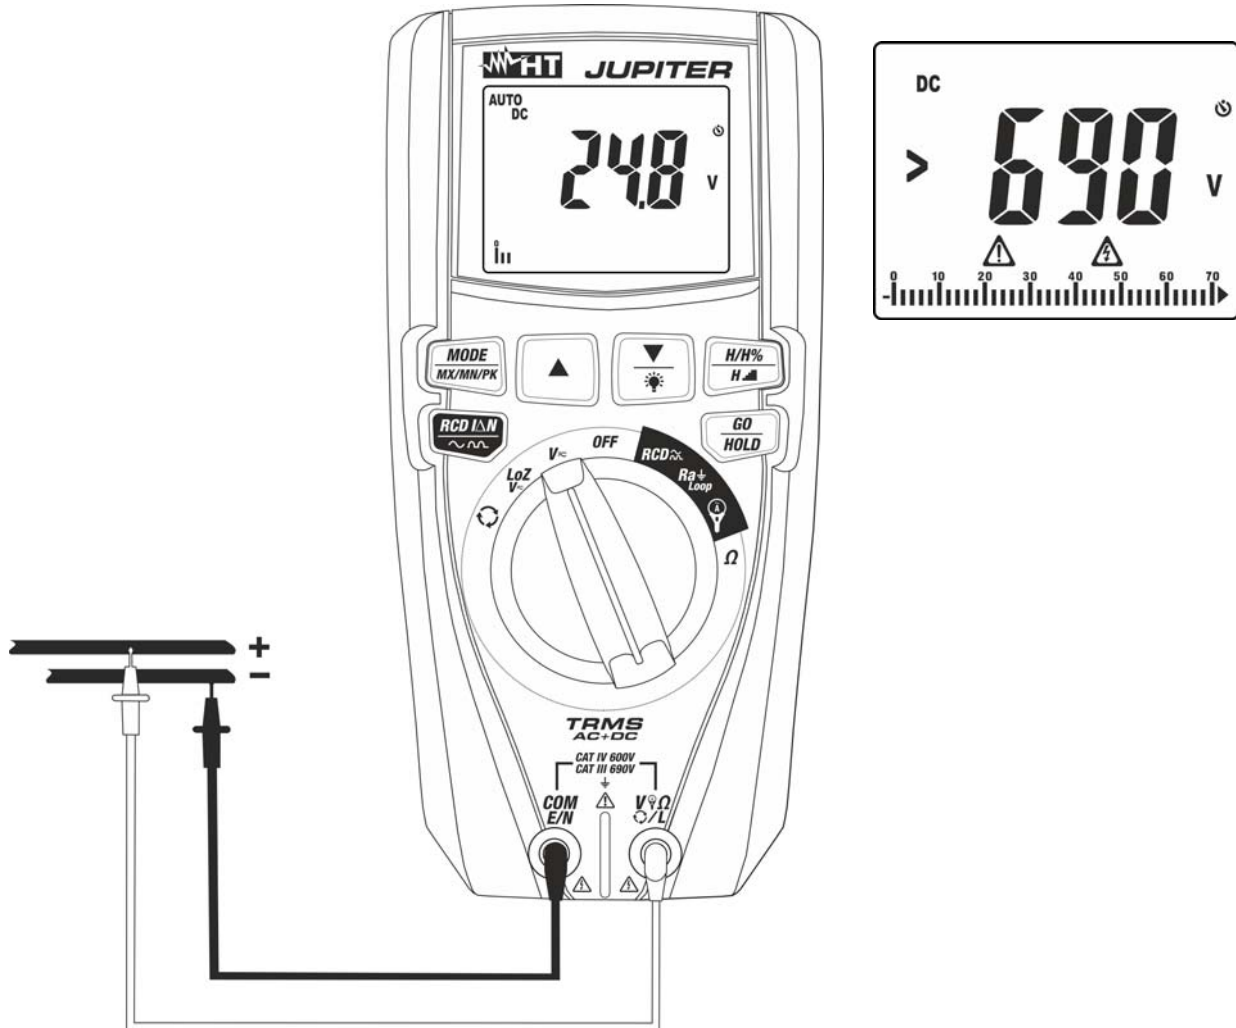
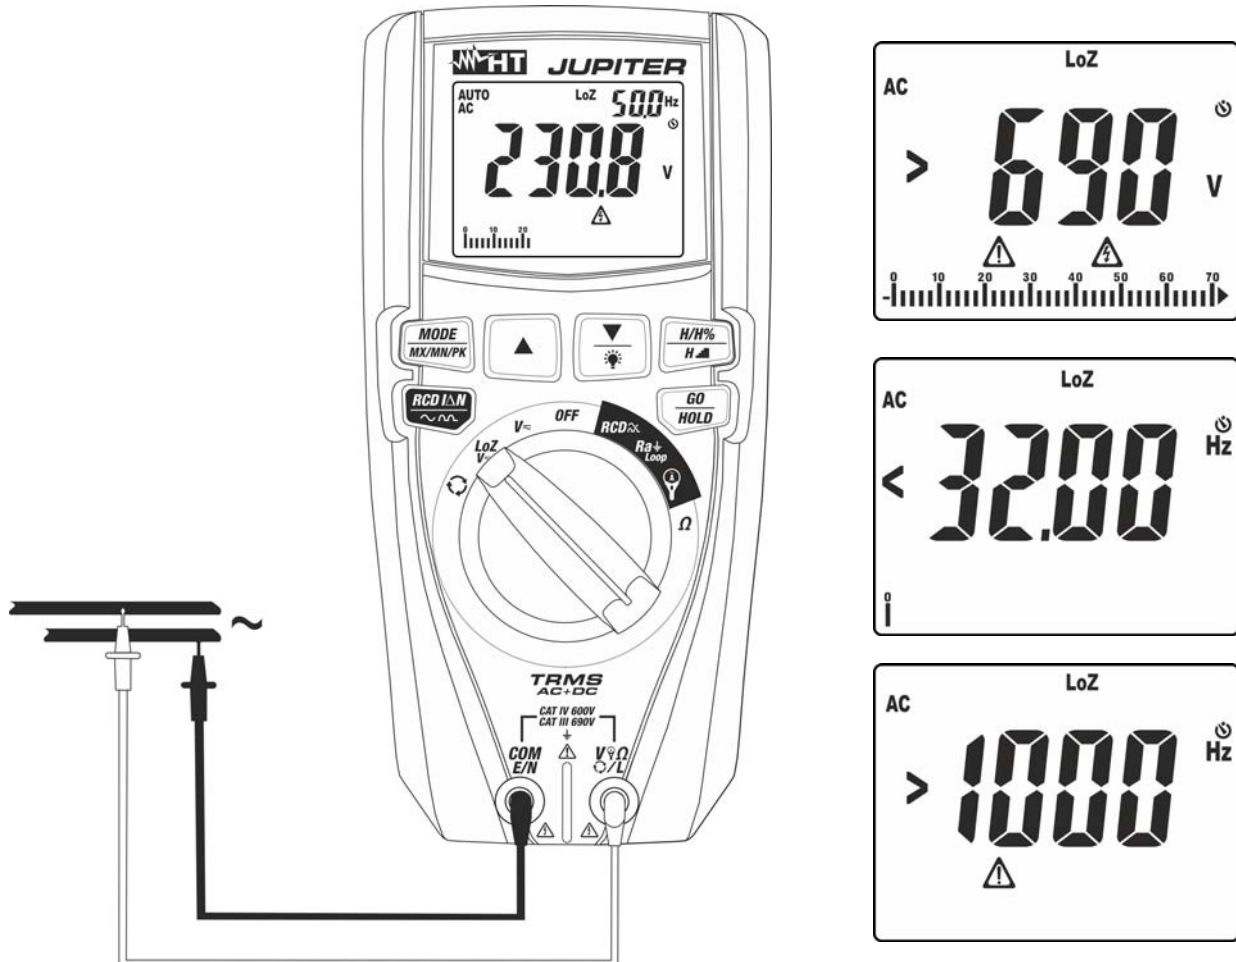

Fig. 8: Use of the instrument for DC voltage measurement
Fig. 10: Use of the instrument for AC/DC voltage measurement with LoZ function
3. Position the red lead and the black lead respectively in the spots with positive and negative potential of the circuit to be measured (see Fig. 8). The display shows the value of voltage.
4. If the display shows the message "**>690V**" (see Fig. 8), the maximum measurable value has been reached.
5. When symbol "-" appears on the instrument's display, it means that voltage has the opposite direction with respect to the connection in Fig. 8.
4. Position the red lead and the black lead respectively in the positions of the circuit to be tested (see Fig. 10) for AC voltage measurement or in the positions with a positive or negative potential of the circuit to be tested (see Fig. 8) for DC voltage measurement. The display shows the value of voltage. On the top of the display on the right side, the value of voltage frequency is displayed. Press key **MODE/MX/MN/PK** to display the value of frequency with a higher resolution.
5. If the display shows the messages "**<32Hz**" or "**>1000Hz**" (see Fig. 10), the value of frequency is out of the measuring range **32Hz ÷ 1000Hz**.
6. When symbol "-" appears on the instrument's display, it means that voltage has the opposite direction with respect to the connection in Fig. 8.